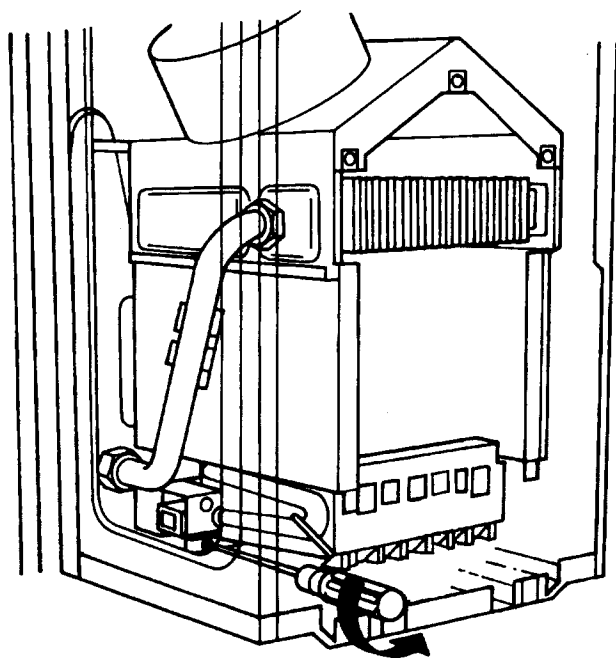

Fig. 26
- 8.6.4 Remove four burner retaining screws (Fig. 26) ease burner forward and rest on chamber base.